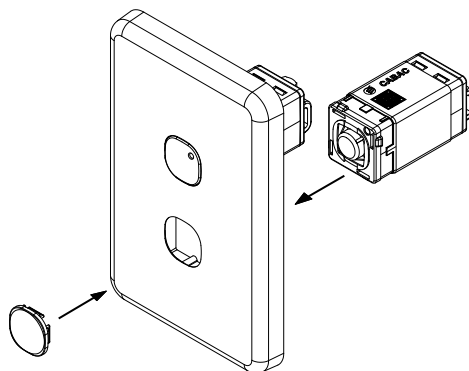

Figure 1: Installation of HNS060MD
- Insert HNS060MD into faceplate and fit the appropriate lens, as shown in Figure 1